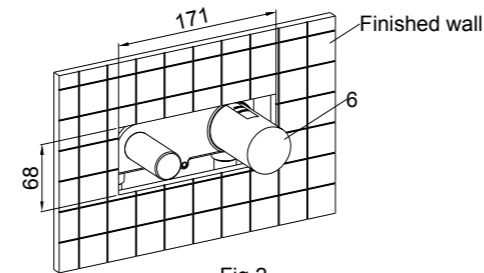

Fig.2
The outer surface of the finished wall should be between the MAX and MIN marks on the protectors(6) as Fig.2 shown. The size of the opening in the finished wall is as shown in Fig.2.